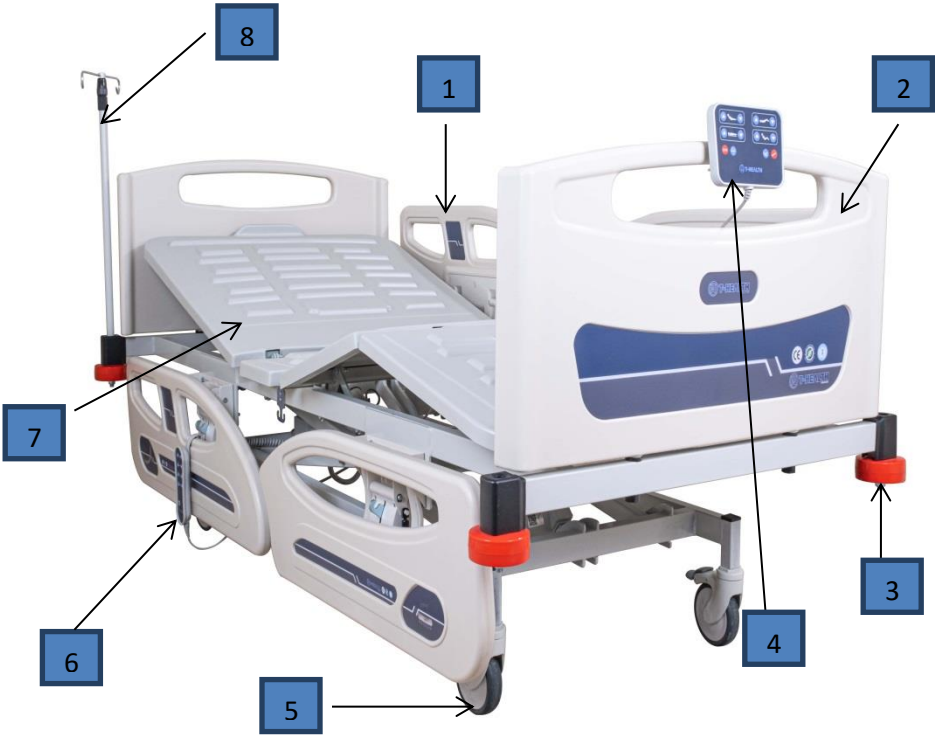

Figure 1: Description of main the components
1. Pull up the side guard the unlock lever upwards as shown in the figure 1.